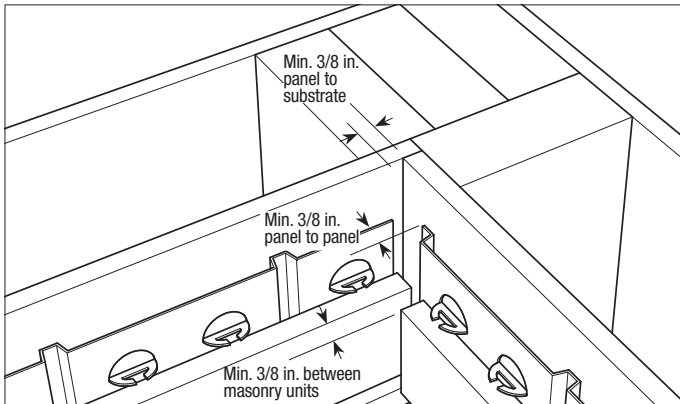

FIGURE 12
- At inside corners, maintain a 3/8 in. space between the end of each brick and the intersecting brick, panel or substrate surface (see Figure 12).